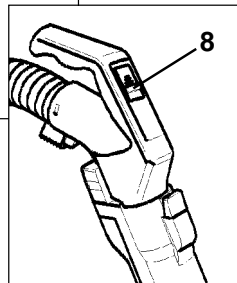

Figure 2
1. With the canister main power switch in the OFF position, and the power control slider on the handle (#8, figure 2) in the OFF position, pull the power cord out from the base of the canister (see canister owner's manual). The power cord should be unwound from the cable reel at least two thirds of its length.
4. Slide the Power Control Slider (#8, figure 2) to the ON position (the slider will "click" when it is pushed out of the OFF position). It will then slide freely between 0 suction and MAX suction. Set the slider to the suction desired. The green power light situated on the top side of the power head will illuminate.
#8, Figure 2
When the canister's main power switch is in the ON position, you may turn the power head off and on with the power control slider (#8, figure 2). To turn the power head off using the power control slider, pull the slider to 0 suction, then continue pulling the slider up until it "clicks" into the OFF position. The green power head light will then shut off.